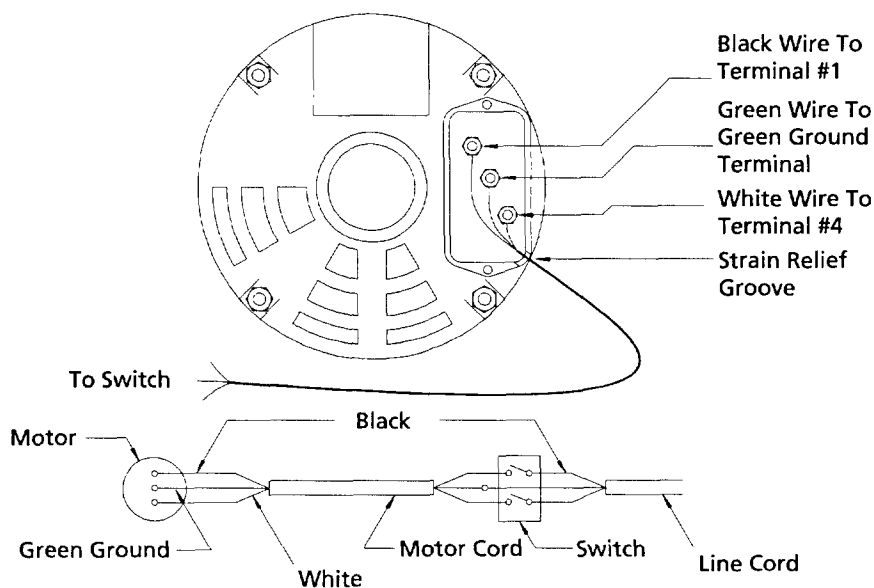

Figure 3 — Wiring Schematic
Refer to Figure 3.
3. The wiring schematic (Figure 3) is used when wiring Dayton 5K460 motor. The motor must be wired for clockwise rotation when viewed from the shaft end. The unit is assembled with an approved three conductor cord to be used with 120 volts as indicated.